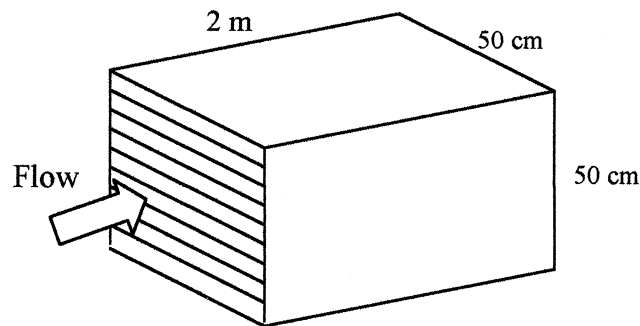

Fig. P6.88
6.88 An oil cooler consists of multiple parallel-plate passages, as shown in Fig. P6.88. The available pressure drop is 6 kPa, and the fluid is SAE 10W oil at 20°C. If the desired total flow rate is 900 m³/h, estimate the appropriate number of passages. The plate walls are hydraulically smooth.